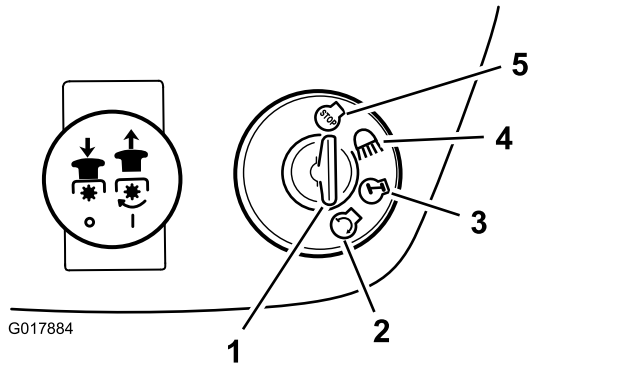

Figure 10
7. Turn the ignition key clockwise and hold it in the Start position (Figure 10).
2. Turn the ignition key to the Off position (Figure 10).